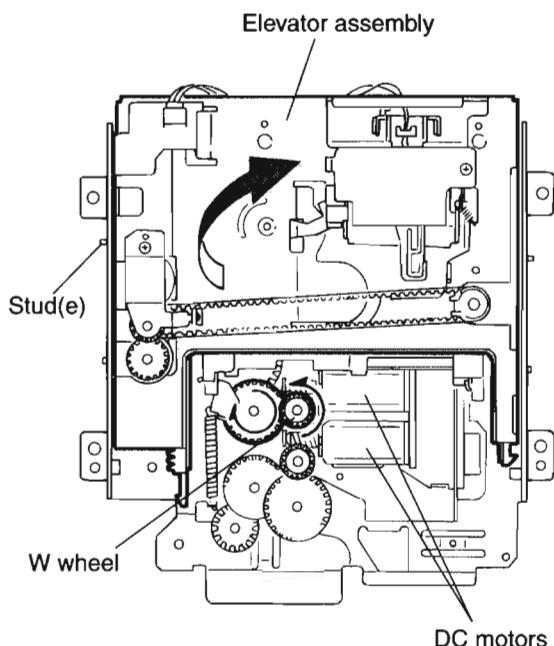
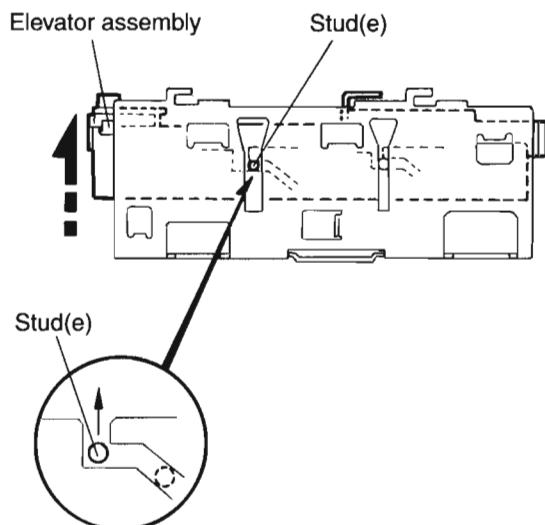

Fig.7
Fig.8
(see Fig.7 and 8)
2. Turn the W wheel in the direction of the arrow to raise the Elevator assembly(see Fig.7) and allow Stud(e) to reach the top of the groove(see Fig.8).